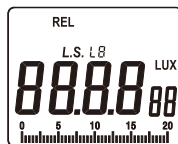

Figure 3-1-2A
- Press the REL/PEAK key and "REL" will appear on the top left position of the LCD display (as shown in figure 3-1-2A), and the meter will enter relative value measurement mode.